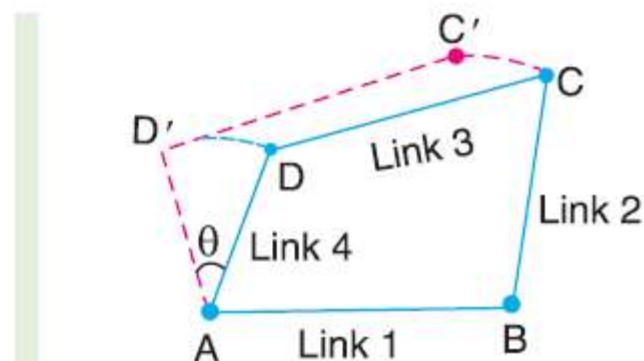

Fig. 5.7. Arrangement of four links.
2. Consider the arrangement of four links  $AB$ ,  $BC$ ,  $CD$  and  $DA$  as shown in Fig. 5.7. In this case
Since the arrangement of four links, as shown in Fig. 5.7, satisfy the equations (i) and (ii), therefore it is a *kinematic chain of one degree of freedom*.